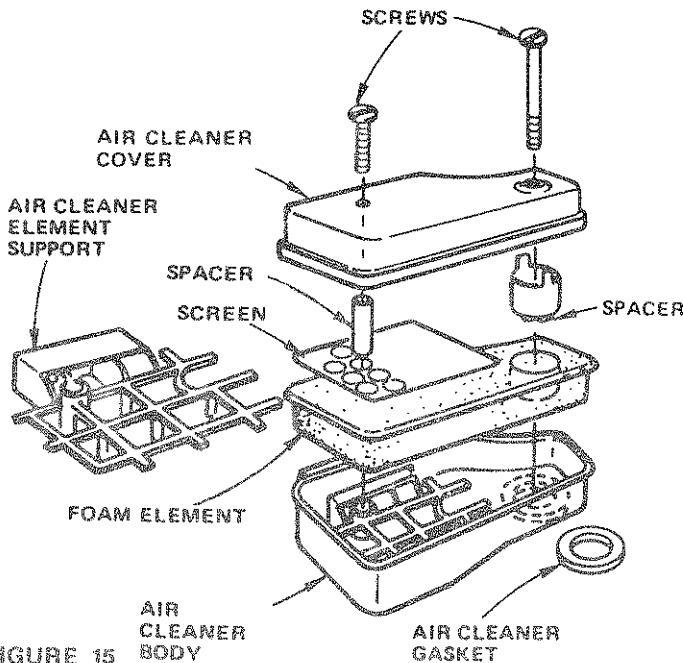

FIGURE 15
## 7. Clean Air Cleaner Element (Fig. 15)
- Remove two screws from air cleaner cover. Lift off air cleaner (Fig. 15).